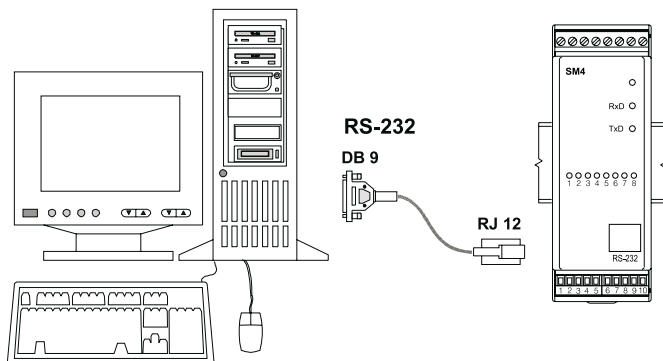

Fig. 5. Connection way of RS-485 and RS-232 interfaces
- The RS-232 socket serves only to connect the device (Fig. 5) working with the MODBUS protocol.
One can program all module parameters by means of RS-232 or RS-485. The RS-232 port has constant transmission parameters in accordance with technical data, what enables the connection with the module, even when programmed parameters of the RS-485 digital output are unknown (address, mode, rate). The RS-485 standard allows to the direct connection to 32 devices on a single serial link up to 1200 m. To connect a greater number of devices it is necessary to use additional intermediate-separating system e.g. converter/repeater of PD51 type).. The way of the interface connection is given in the user's manual (fig.5). To obtain the correct transmission, it is necessary to connect **A** and **B** lines in parallel with their counterparts in other devices. The connection must be carried out with a shielded wire. The shield must be connected to the protective terminal in a single point. The **GND** line serves to the additional protection of the interface line at long connections. One must connect it to the protective terminal (that is not necessary for the correct interface work). To obtain the connection with the PC computer through the RS-485 port, an RS-232/RS-485 converter (PD51) or an RS-485 interface card is indispensable. The marking of transmission lines for the card in the PC computer depends on the card manufacturer. To obtain the connection through the RS-232 port, the wire added to the module is sufficient. The connection way of both ports (RS-232 and RS-485) is shown on the fig. 5. The module can be connected to the device of master type only through one interface port. In case of a simultaneous connection of both ports, the module will work through the RS-232 interface.